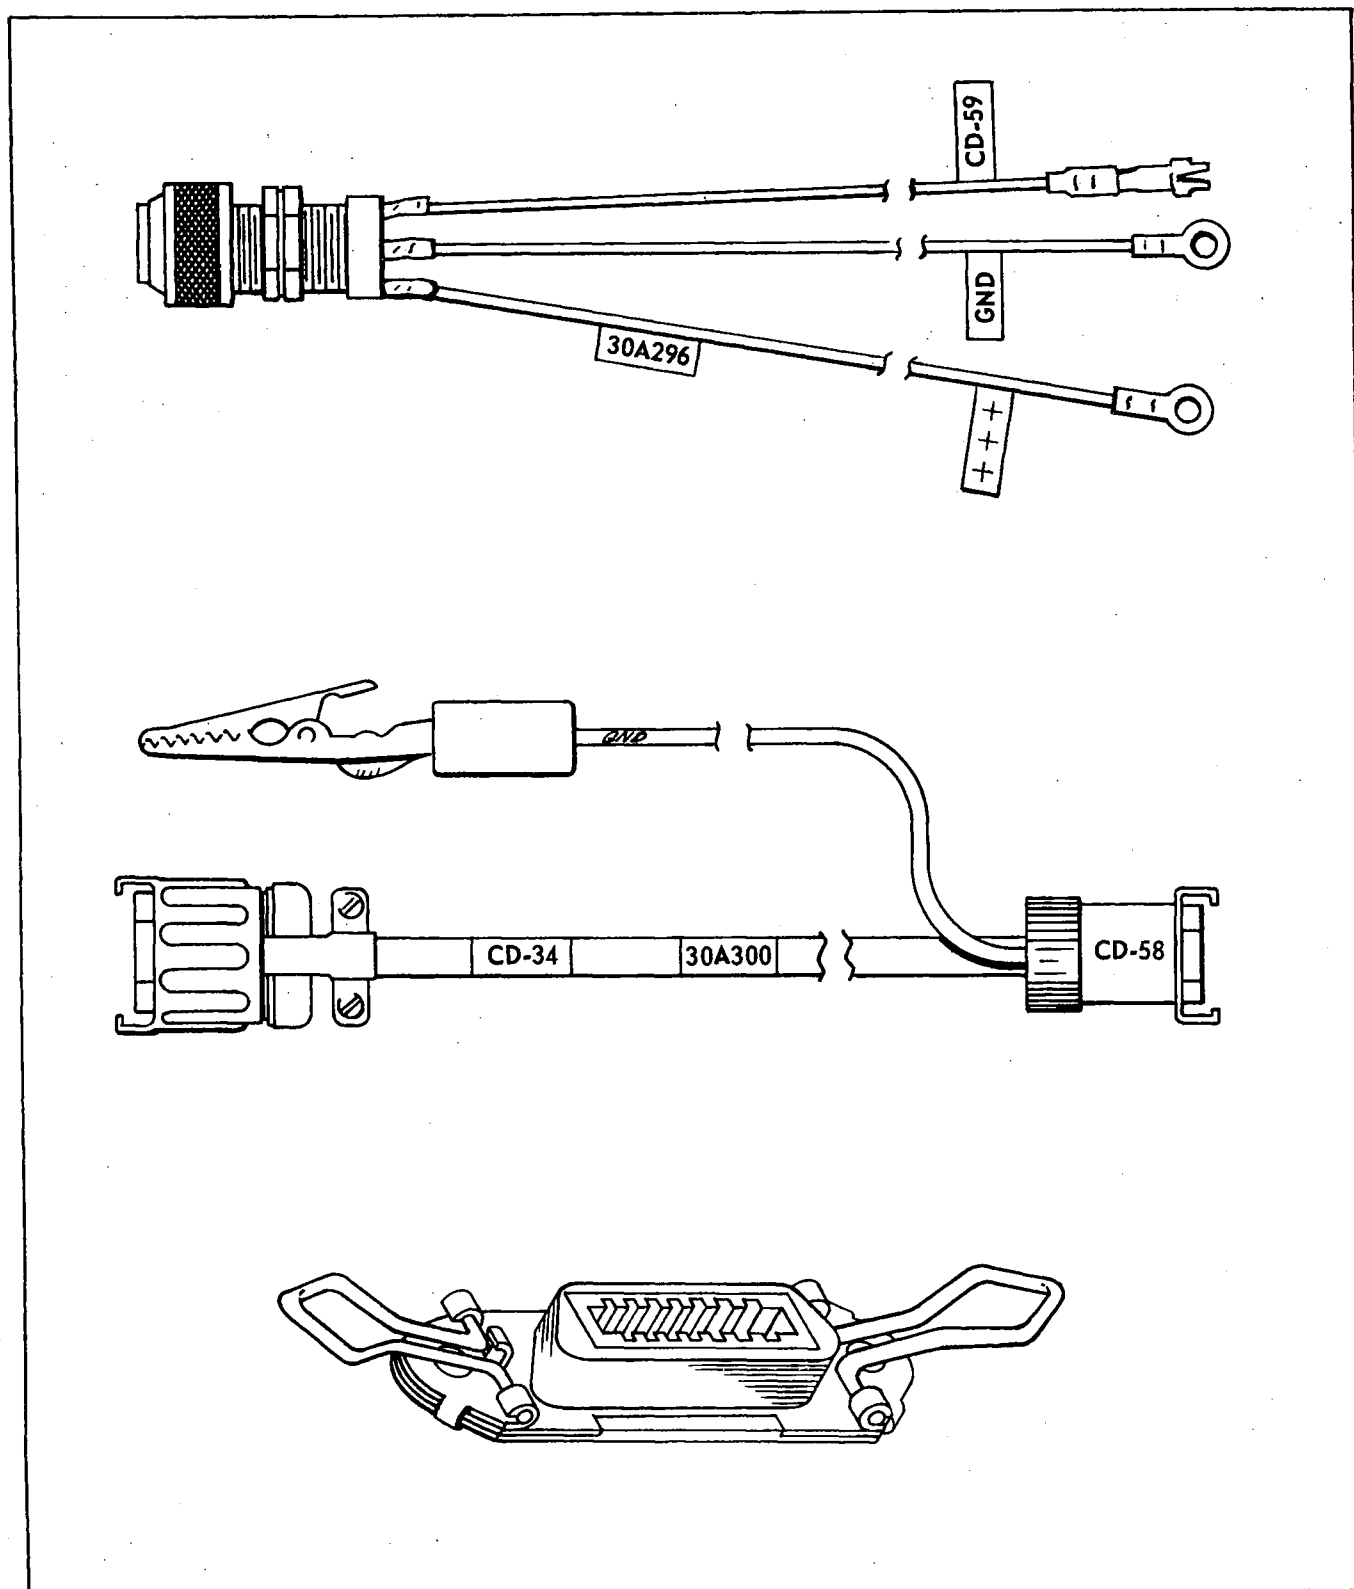

Figure 10-1. Glide Slope Coupler Test Cables and Jumper Plug
10-3. GLIDE SLOPE CABLES. Given in this paragraph are the additional items which are used for testing the Glide Slope Coupler. (Refer to Figure 10-1.)
- c. Glide Slope Coupler Cable, Mitchell P/N 30C291 (Piper P/N 752 010). This is the same cable used for installation in the airplane and is not shown in Figure 10-1.